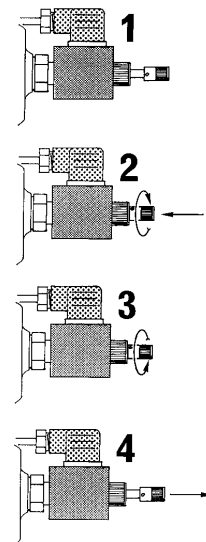

fig. 10b
Only in these conditions it is permitted to remove the lead seals which protects the device. Push the button and turn it into the clockwise sense (fig. 10b pos. 1-2); the button stays in stable and closed position.
(!) When the electric power is reestablished, remember to put the button in its original position, turning it into the anti-clockwise sense. (Fig. 10b pos. 3-4)